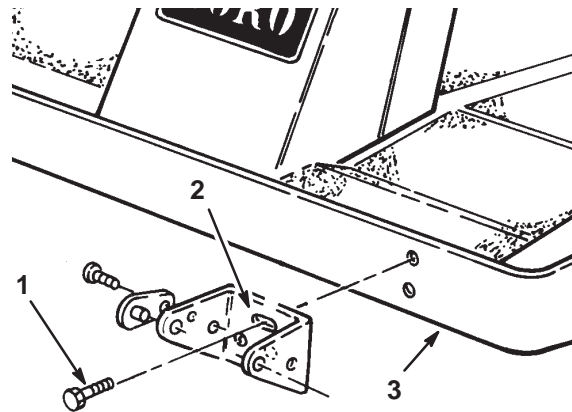

Figure 8
3. To install the mounting brackets, insert 2 flange head capscrews (3/8 x 1 in.) through the slotted bracket holes. Thread the screws into the captivated frame nuts and torque them to 45–50 ft.-lb. (61–68 N·m) (Fig. 8).